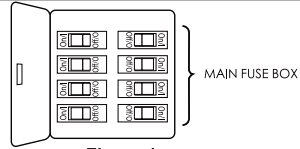

Figure 1
- ☐ 1. Install light bulbs into sockets by threading in a clockwise direction. (Figure 1)
To avoid possible fire or shock, be sure electricity is turned off at the main fuse box before hanging. (Figure 1)